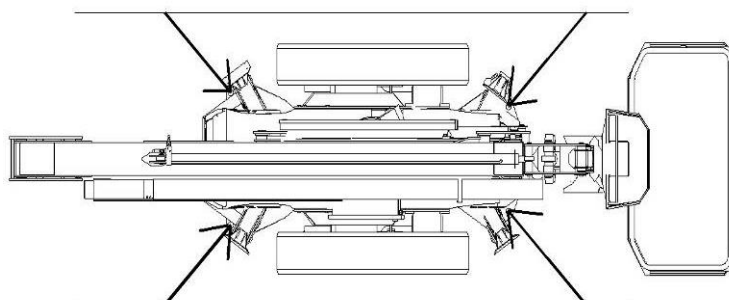

Figure 15 Tie-down points
The slewing ring of the access platform must be greased monthly, according to the maintenance schedule. It is important to notice that the slewing ring has five (5) separate greasing points (Figure 15) which all must be greased individually. The grease nipples on the outside of the slewing ring are connected to the gear and its bearings. Two (2) grease nipples on the inside of the slewing ring are connected to the ring's ball bearings. Easiest way to apply grease on these two grease nipples is through the service hatch on the bottom of the chassis.